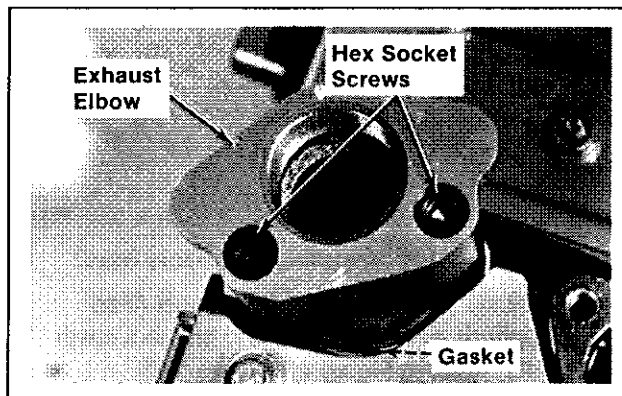

Figure 11-53. Installing Exhaust Elbows.
1. Install the gaskets, exhaust elbows, and hex socket screws. Torque screws to **150 in. lb.** Refer to Figure 11-53.